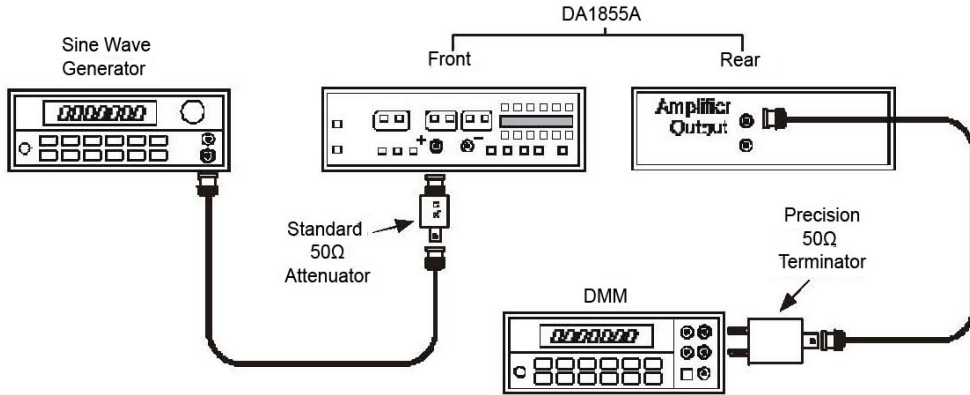

Figure 15, ± 10 Attenuator Accuracy Test Setup 2.
11. Connect the DA1855A AMPLIFIER OUTPUT cable/precision termination to the DMM. Refer to Figure 15.